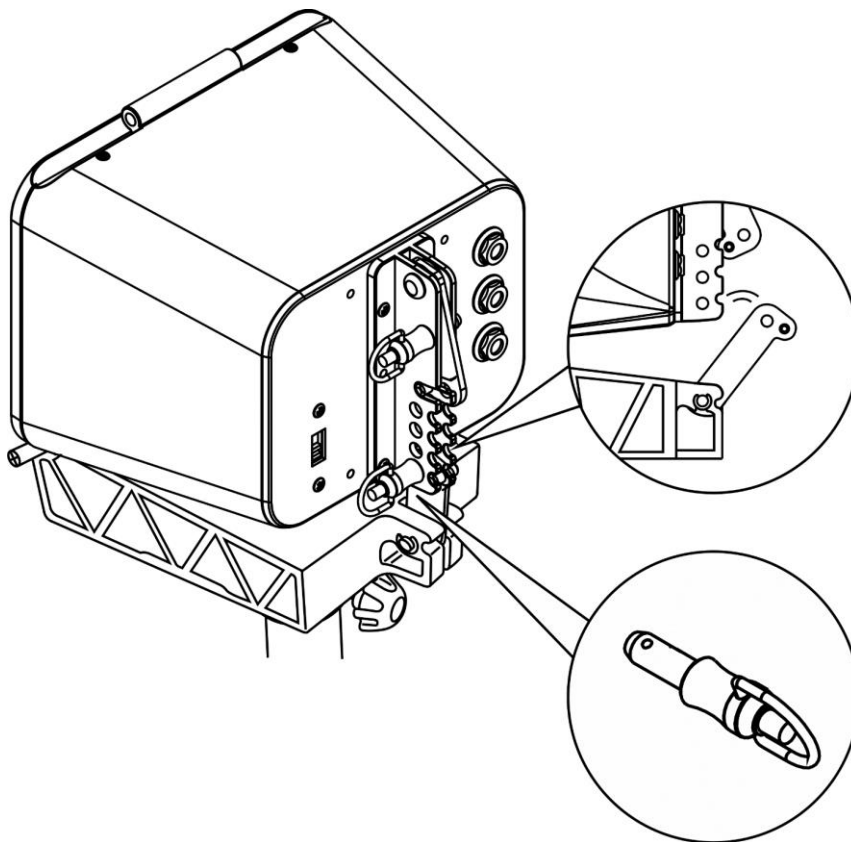

Fig. 03
- 04) Choose the desired directivity angle by inserting the rigging pin into the appropriate slot. Insert the latch, to lock the first Xi-3 speaker (fig. 03). The angle setting has influence on the sound directivity. **Please, ignore the angle indicators located on the slots, on the Xi-3 speakers (0/4/8/12°), as they are valid only in case of connecting multiple Xi-3 speakers. In combination with the Mobile Bracket, however, the angle indicators are NOT CORRECT!!!**